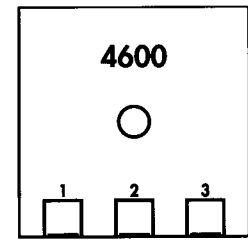

Figure 43
3. Remove slip-on terminals one at a time from the old timer and place on the same numbered connection on the new timer (see Figure 43).